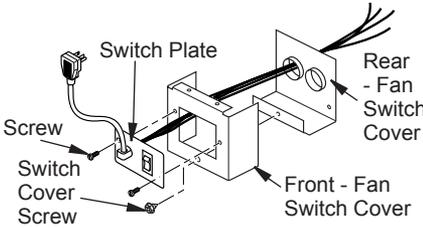

Figure 18 - Installing Switch Plate to Fan Switch Cover
10. Install the switch plate on front of fan switch cover with 2 #10 screws provided (see Figure 18, page 16). Using screw removed in step one, reconnect front and rear of fan switch cover.
- Locate fan switch cover. Remove bottom screw to remove back portion of the cover (see Figure 18).
- Install the switch plate on front of fan switch cover with 2 #10 screws provided (see Figure 18). Using screw removed in step one, reconnect front and rear of fan switch cover.